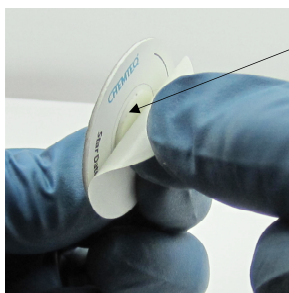

Figure 2
- Peel off the protective liner to expose the bottom adhesive (Figure 2).